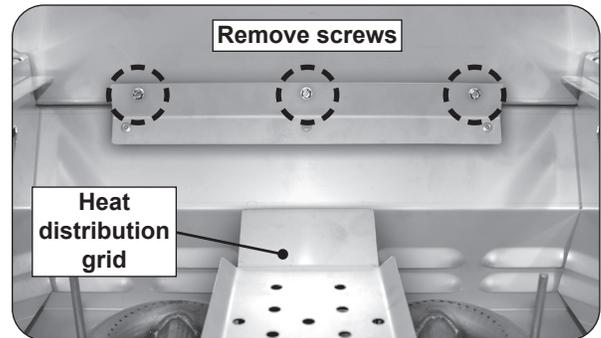

Fig. 2-2 Remove hood - inner screws
4. Open the oven door. Locate and remove the three $\frac{5}{16}$ " hex screws at the rear of the oven. See Fig. 2-2.
1. Locate the heat distribution grid (see Fig. 2-2).